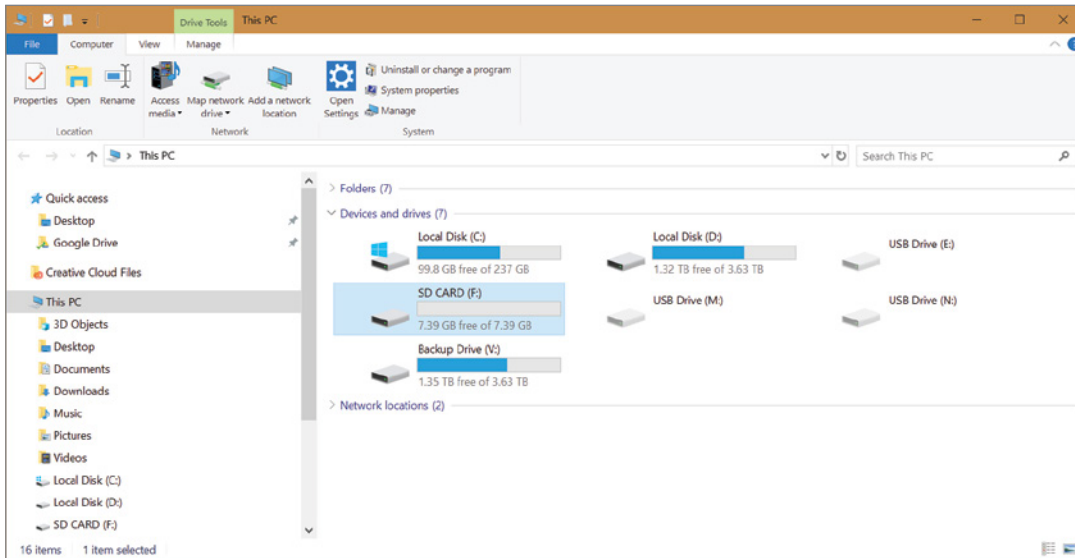

Figure 14-1: SD card shown in This PC
1. Insert the SD card into your card reader; it then appears in This PC (see Figure 14-1).